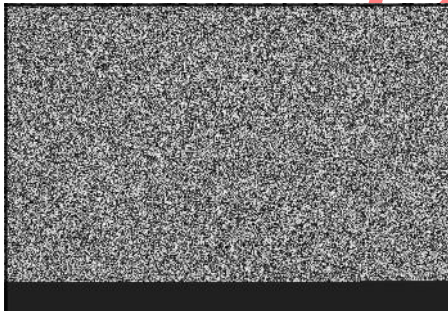

Figure 16
Early oil pump screens (A, Figure 16) (before date code 94110700) were mounted inside the sump and held with one screw (B).